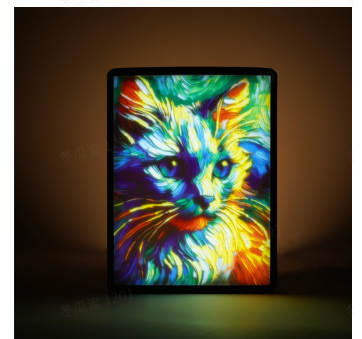

Figure 8
2. Clip the LED backlight boards under the small clips inside the frame edges and lay them flat in the frame. (As shown in Figure 8)
1. Install the batteries and turn on the battery box switch. Rotate the potentiometer knob to adjust the brightness. (As shown in Figure 8)